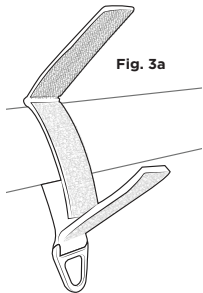

Fig. 3a
3. Sandwich the hook and loop straps back together (Fig. 3a, 3b, 3c)